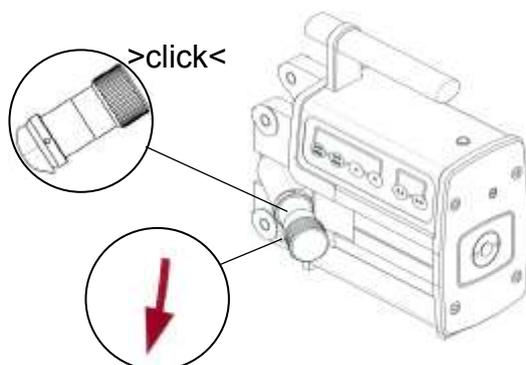

Fig. 63
1. Determine the correct rotation direction of the Drive Unit, see arrow on the Lathe, fig. 63.
9. One click equals 0.05 mm (0.002 inch). Fig. 63.